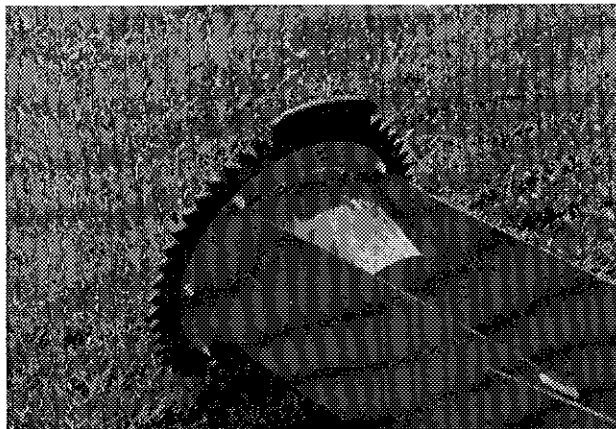

Figure 28
- 1) Bolt the 55 tooth ring-gear onto chute flange with plain segment lined up with chute discharge opening (Fig. 28).